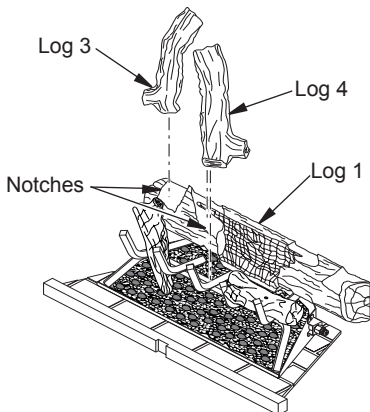
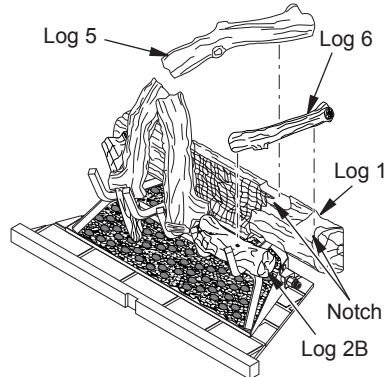
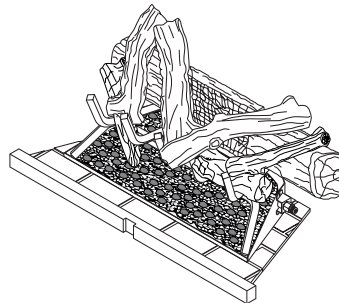

Figure 28 - Installing Logs 3 and 4
Figure 29 - Installing Logs 5 and 6
Figure 30 - Logs Installed for M42E, M42EP, VM42E and VM42EP Models
3. Place log 3 into notch on top left of log 1, resting the lower end on the left two grate fingers (see Figure 28).
4. Place the upper end of log 4 into the notch on log 1 as shown in Figure 28. Rest the lower end of log 4 on the middle grate finger as shown in Figure 29.
5. Place the upper end of log 5 into the notch on the top inner right of log 1 (see Figure 29). Rest the lower end of log 5 on the middle grate finger as shown in Figure 30.
6. Place log 6 into the notch on the top right of log 1 (see Figure 29). Rest the lower end of log 6 on top of log 2B (see Figure 30).